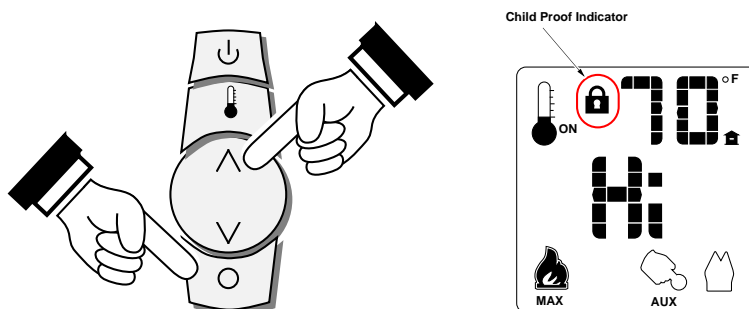

Figure 15
- Press both the MODE and UP buttons simultaneously to turn this feature on and off (see Figure 15 below).